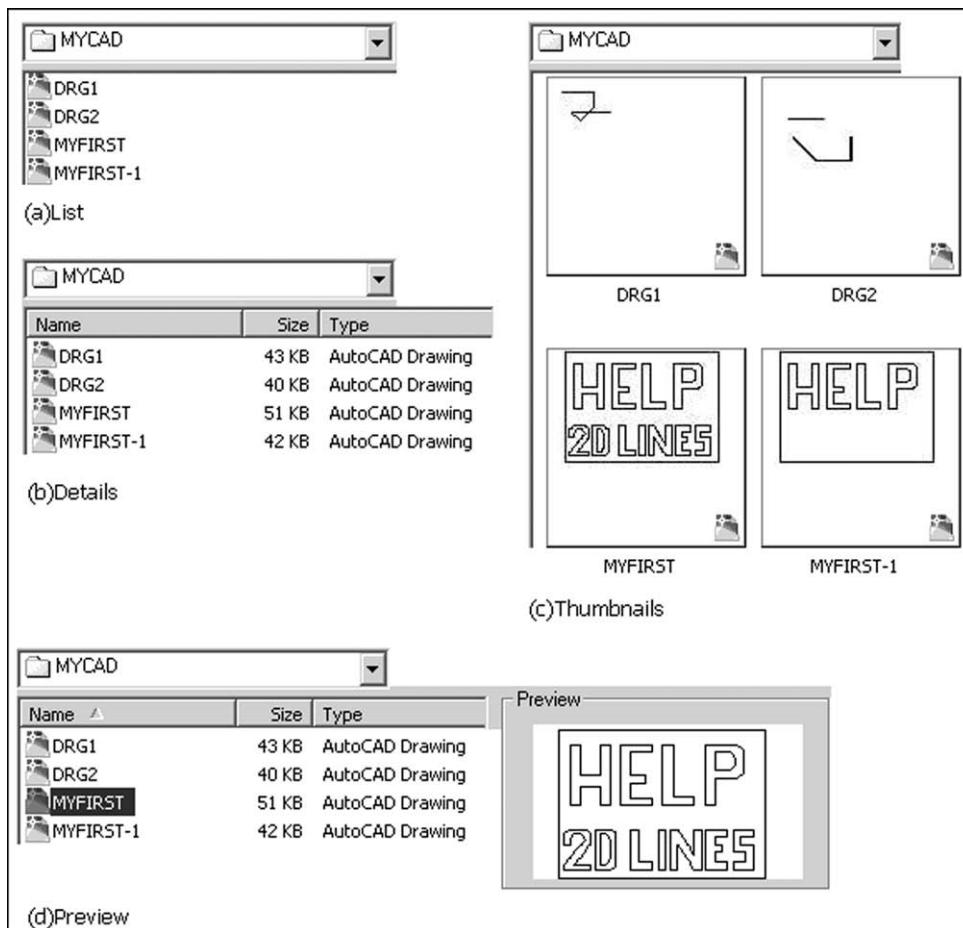

Figure 5.5 The View options of the Select File dialogue box when opening an AutoCAD 2007 drawing.
- 2 Figure 5.5 displays these four options.